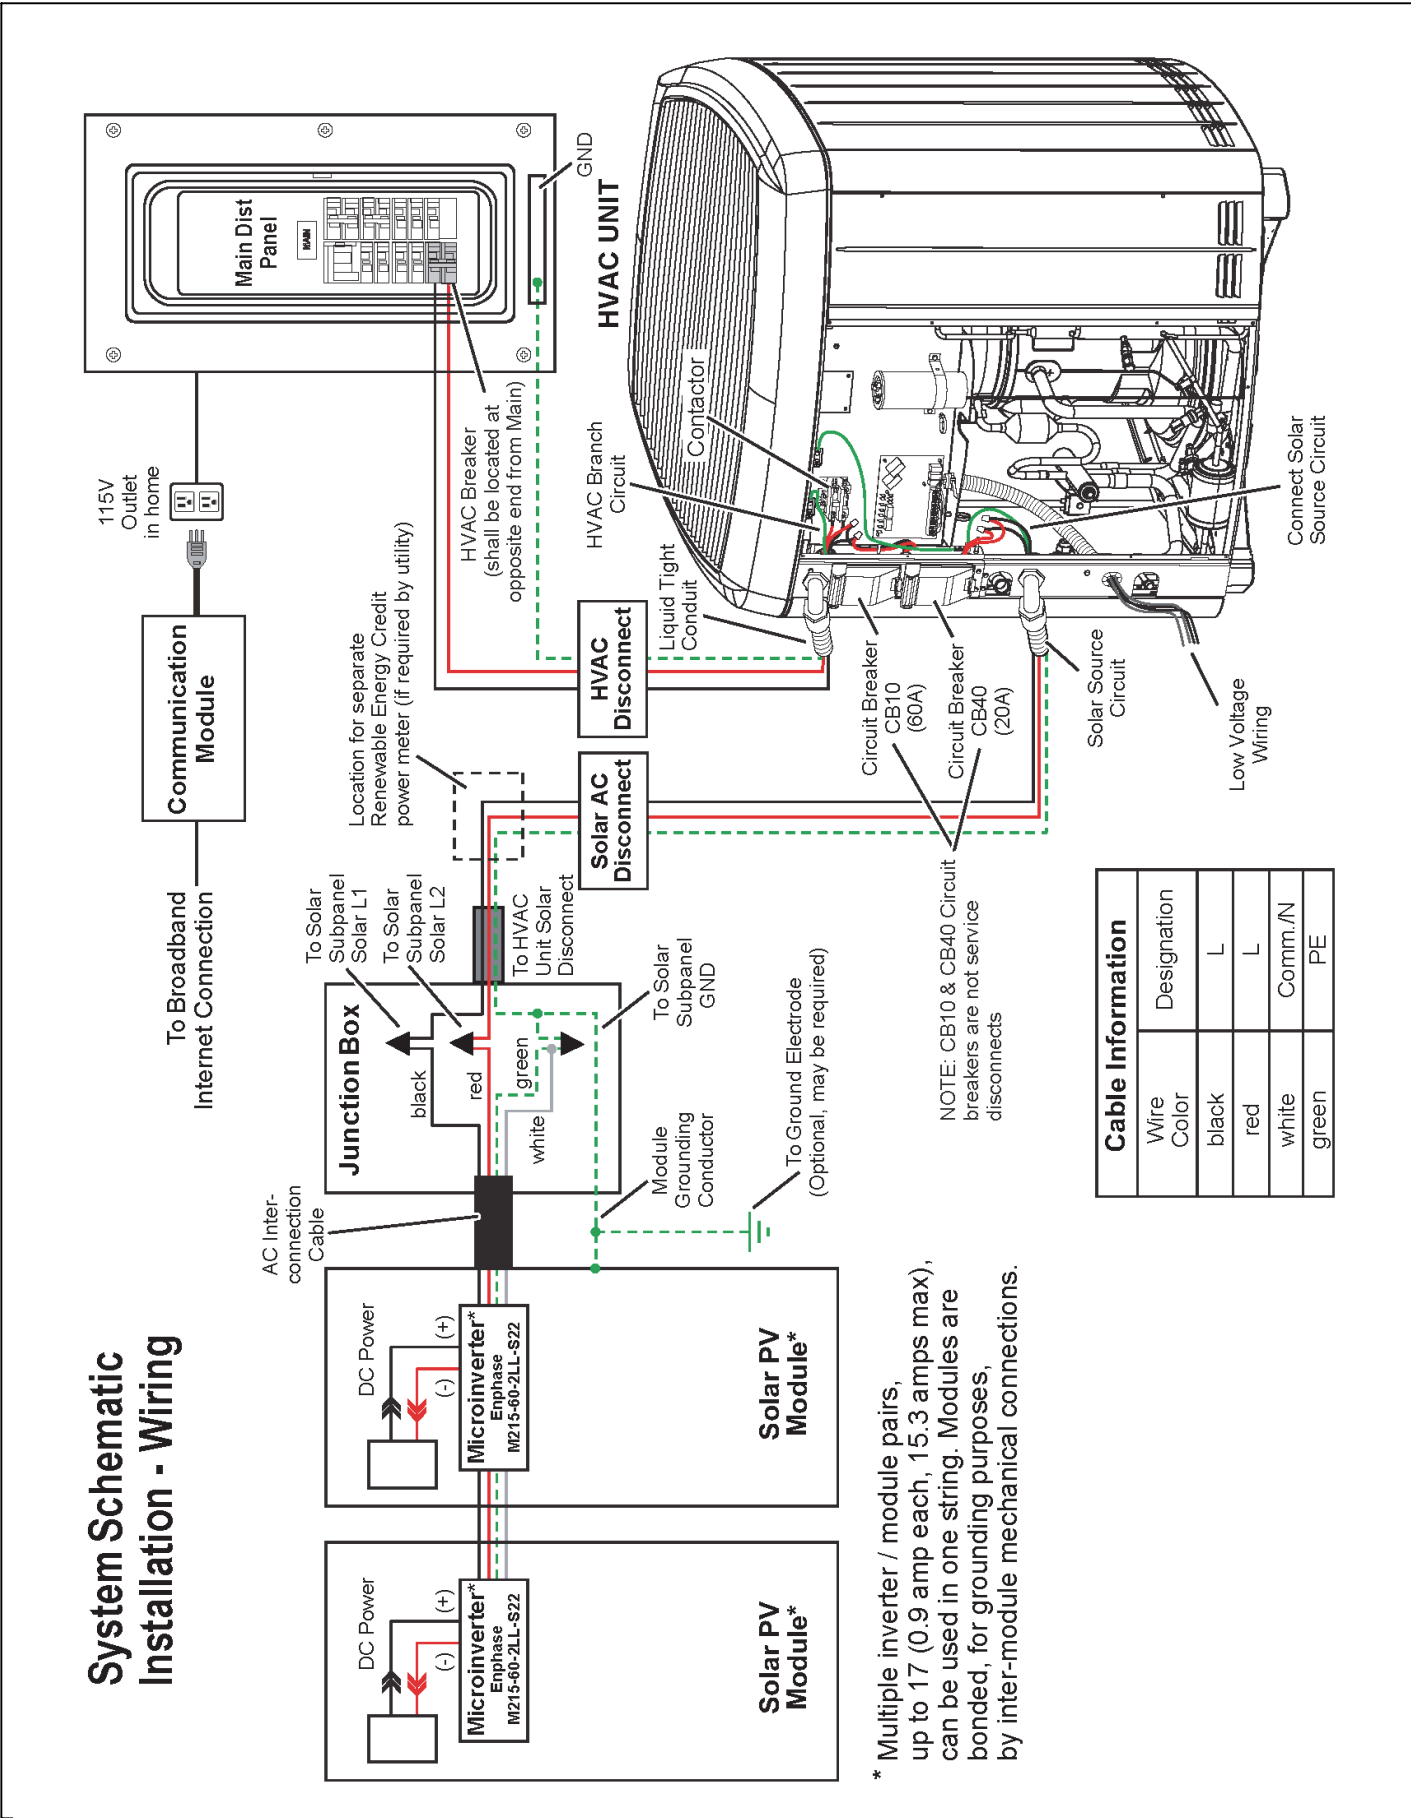

Figure 18. SunSource® Home Energy System Electrical Layout
- A** Turn ON the AC disconnect or circuit breaker on the microinverter AC branch circuit. Check the voltages on the AC interconnection cable pins to ensure proper wiring. **Please verify proper AC cable voltage prior to connecting to live voltage or connecting the harness to the Andalay AC string (see figure 18). Failure to properly connecting the wires can result in severe damage and void the warranty.**